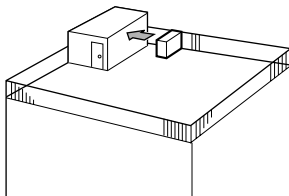

Fig.2-1
- Face the air outlet towards the nearest available wall about 50 cm away from the wall. (Fig. 2-1)